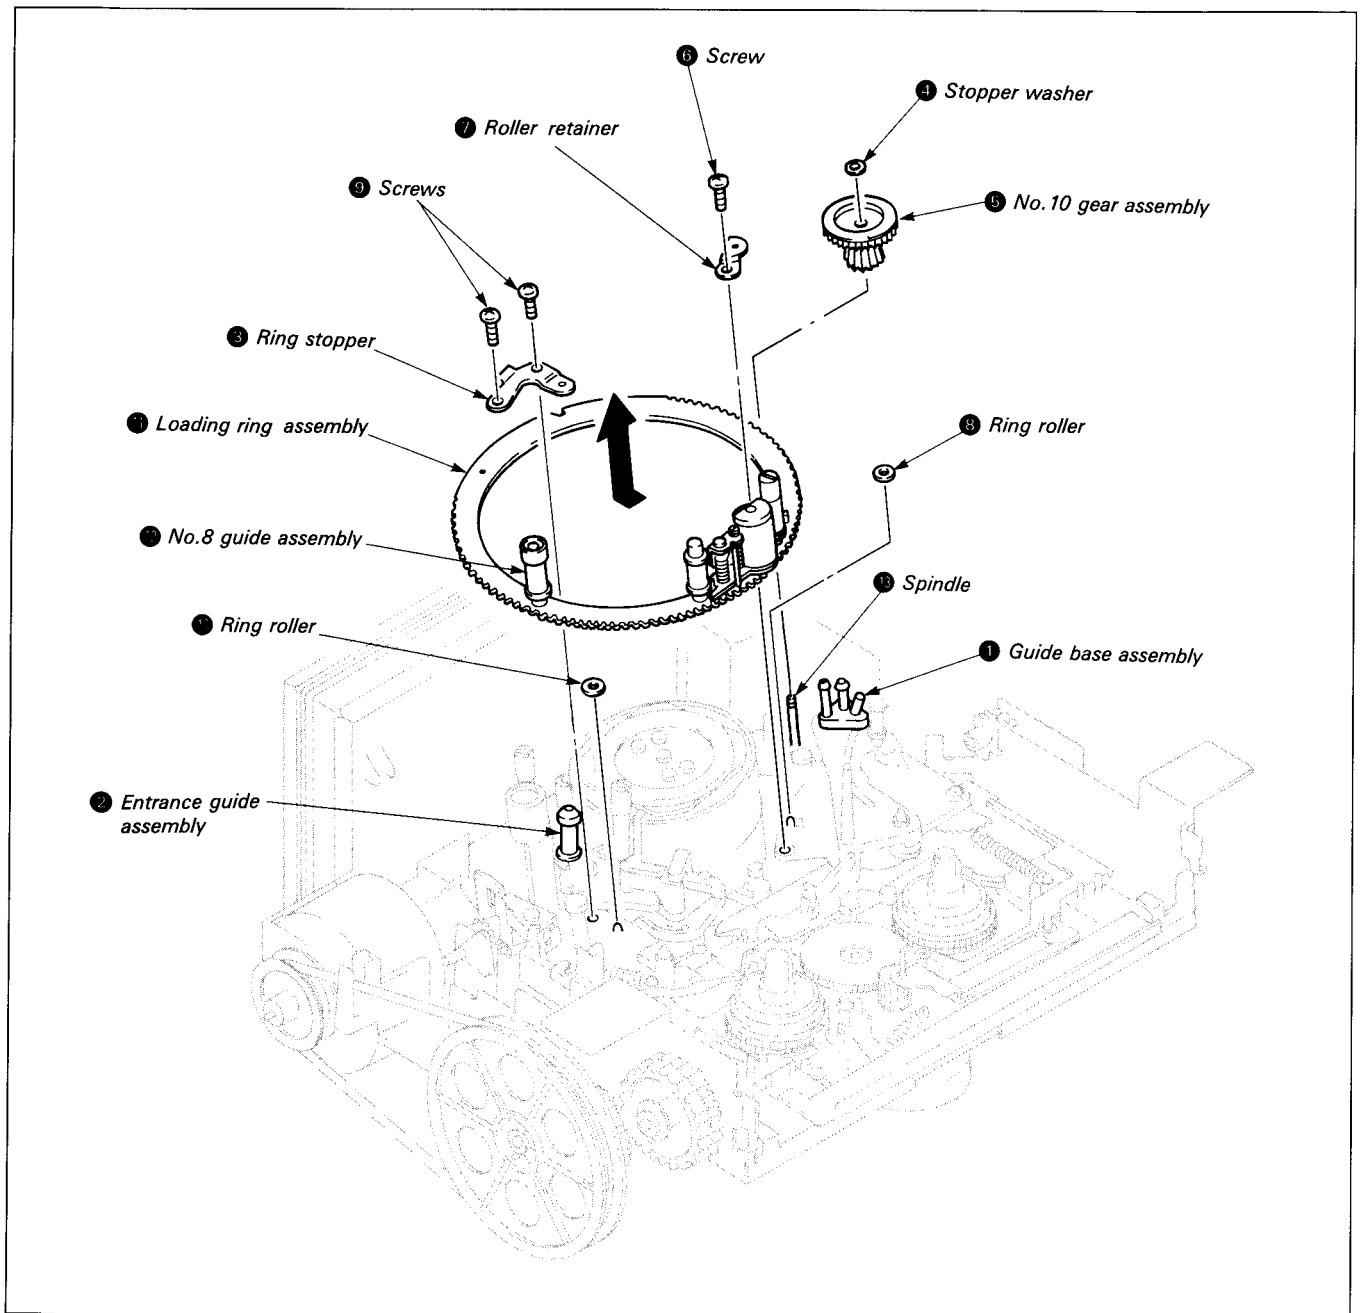
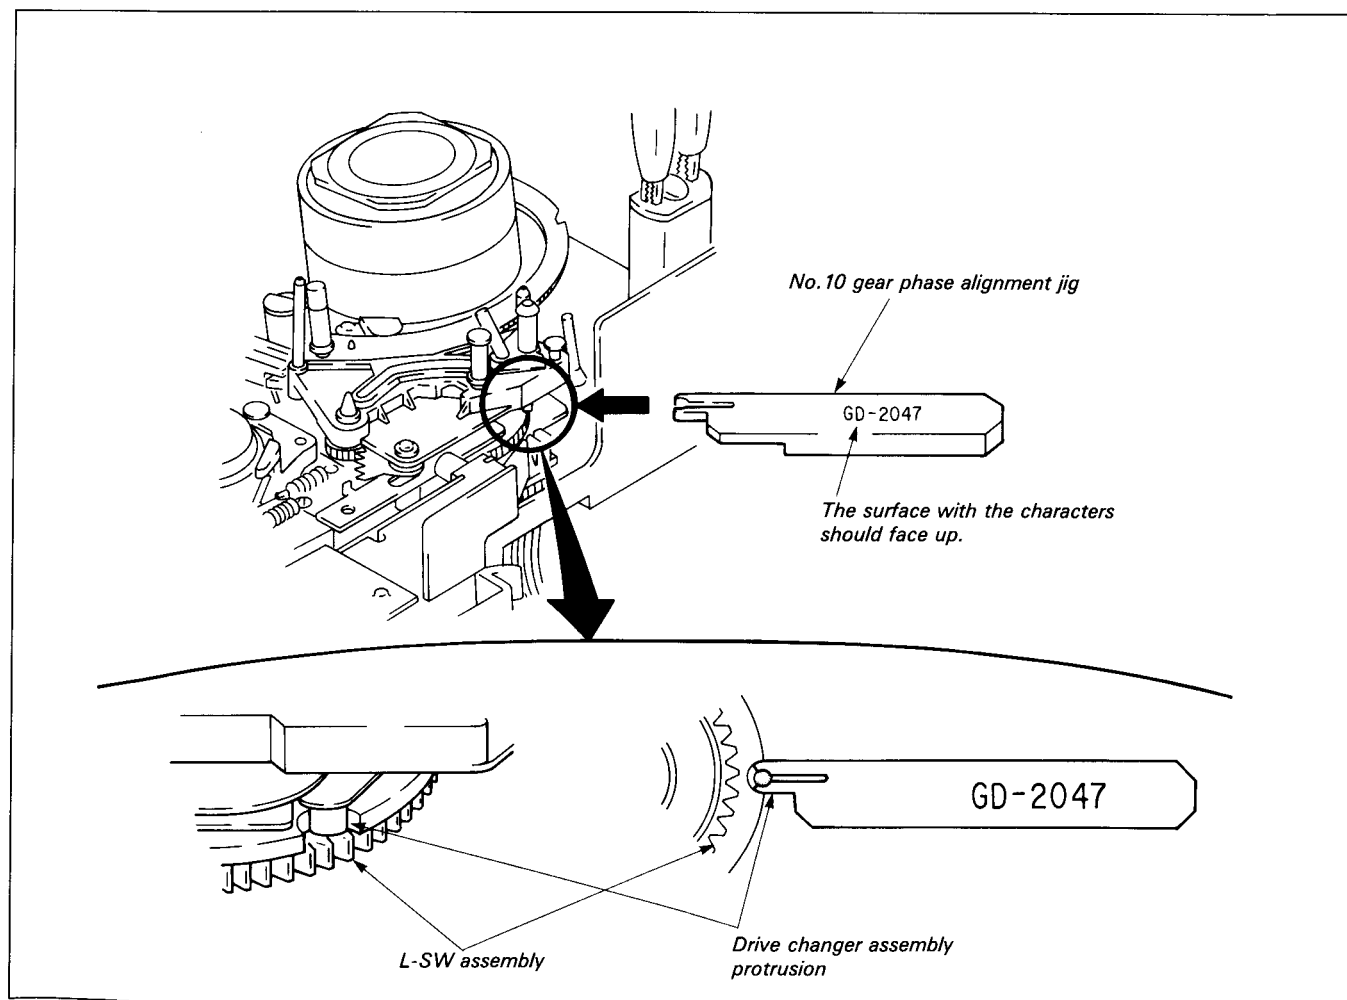
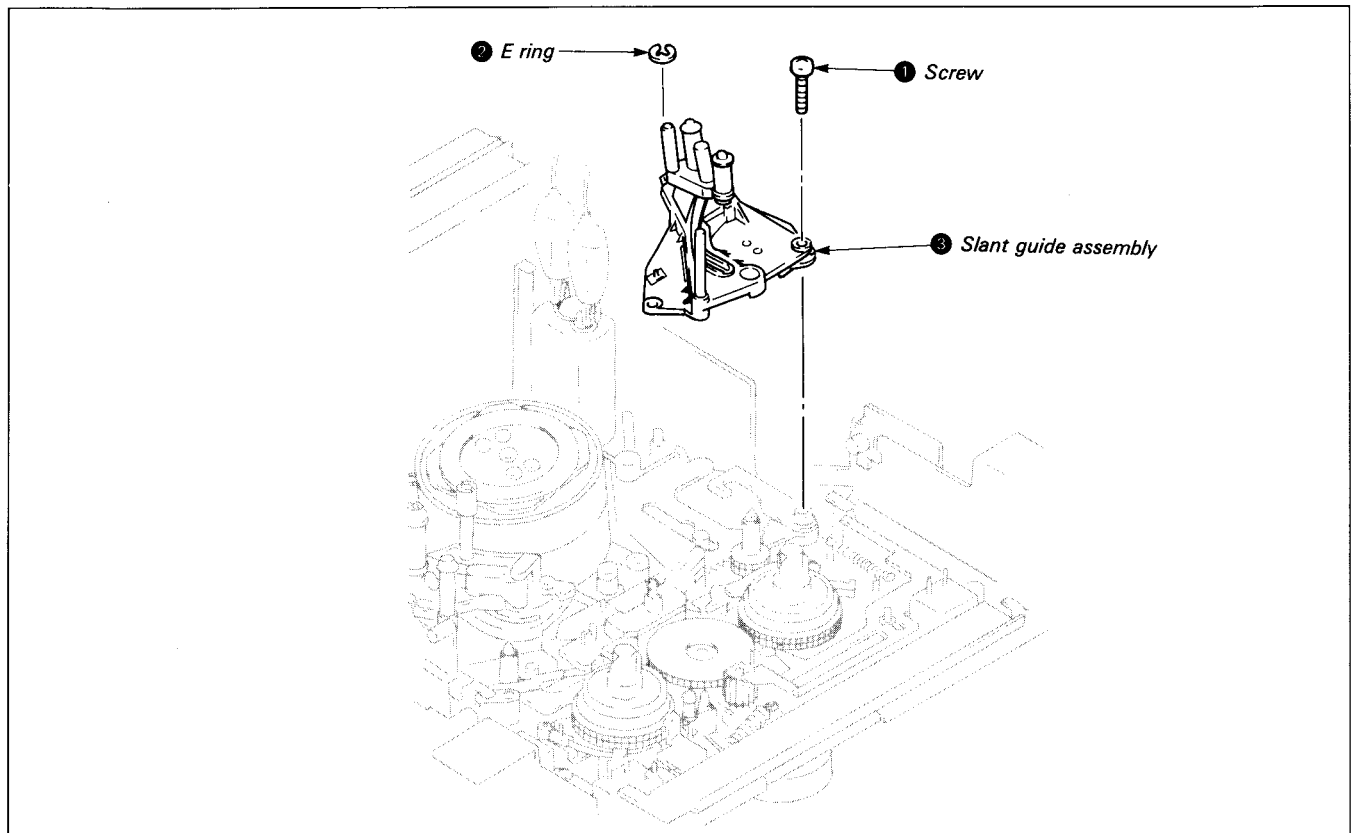

Fig. 7-12.
Fig. 7-13.
Fig. 7-26.
7-3-7. Loading Ring Assembly (See Fig. 7-12, 13.)
- 3) Operate the mode selector, and move the guide base assembly ① until just before lock, and the entrance guide assembly ② until just before lock where the ring stopper ③ screw is visible. (Do not move loading ring assembly ⑪.)
- 4) Remove the stopper washer ④ and remove No. 10 gear assembly ⑤.
- 5) Remove screw ⑥ and the roller retainer ⑦ and ring roller ⑧.
- 6) Remove the two screws ⑨ and the ring stopper ③ and ring roller ⑩.
- 7) Remove the loading ring assembly ⑪ as shown by arrow. (See Fig. 7-12.)
- 1) Mount the loading ring assembly ⑪ so that it is in unthreaded state (pinch roller arm assembly is on the front panel side). (Check that is in the state in step 3) under Removal.)
- 2) Mount the ring roller ⑬ and ring stopper ③ and tighten with the two screws ⑨. (No. 8 guide assembly ⑫ should be closer to the front panel than the ring stopper ③.)
- 3) Mount the ring roller ⑧ and roller retainer ⑦ and tighten with screw ⑥. (Check that the loading ring assembly matches the three ring spacers.)
- 4) Place a half drop of oil on the spindle ⑮. (See Fig. 7-12.)
- 5) Check that the protrusions on the drive changer assembly are in the indentations of the L-SW assembly and insert the No. 10 gear phase jig (Ref. No. J-9). (See Fig. 7-13.)
- 6) Mount No. 10 gear assembly ⑤ and stopper washer ④ while pushing the No. 8 guide assembly ⑫ against the ring stopper ③.
- 8) Set to **LOADING TOP** mode. (See Fig. 7-12.)
- 1) Remove the loading ring assembly as described in 7-3-7., 1. Removal. (See Fig. 7-12.)
- 6) Mount the loading ring assembly according to 7-3-7., 2. Mounting. (See Fig. 7-12, 7-13)
7-3-9. Slant Guide Assembly (See Fig. 7-26 ~ 28.)
- 1) Remove the loading ring assembly according to 7-3-7., 1. Removal. (See Fig. 7-12.)
- 2) Remove screw ❶ and E ring ❷.
- 3) Remove the slant guide assembly ❸. (See Fig. 7-26.)
- 3) Mount the E ring ❷ and tighten screw ❶. (See Fig. 7-26.)
- 5) Mount the loading ring assembly according to 7-3-7., 2. Mounting (See Fig. 7-12, 7-13.)